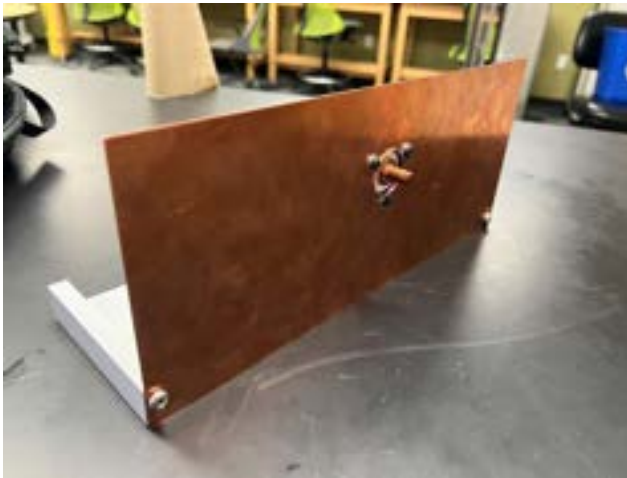

Figure 6: Motor connected to Motor stand
- Using three M4 and three M4 washers, connect the piezoelectric motor to the copper face. Motor cable connection should point down, as illustrated in figure 6.